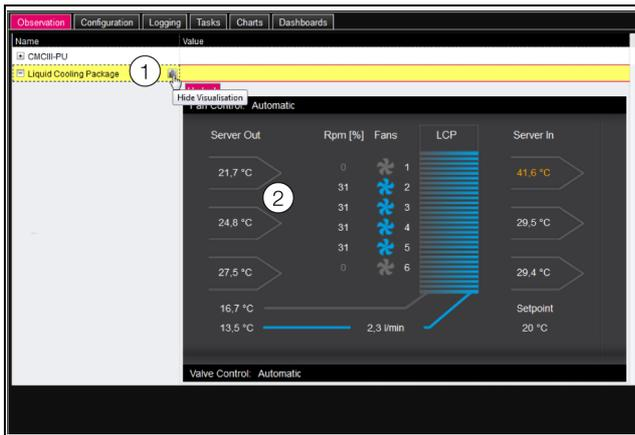

Fig. 118: Graphical representation
The display switches to the graphical representation (fig. 118) and all statuses and speeds of the fans and temperature values for the server inlet and outlet temperature as well as the control modes for the fan and water control can be seen at a glance and amended by clicking the graphic (fig. 118, item 2).
After selecting the "Liquid Cooling Package", if graphical representation (fig. 118) is preselected, you can switch to the tree view as follows:
- Click on the greyed "Graphics" symbol after the "Liquid Cooling Package" entry (fig. 118, item 1).